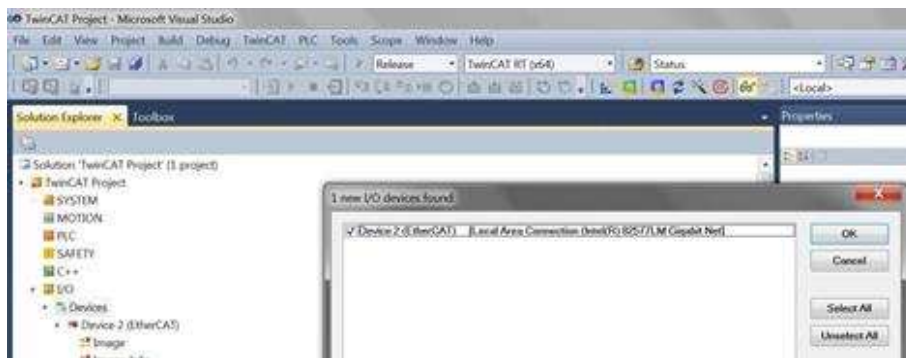

Figure 22. TwinCAT3 Discovery of Ethernet Adapter
- (a) A popup indicating TwinCAT has found the adapter that should appear (see Figure 22).